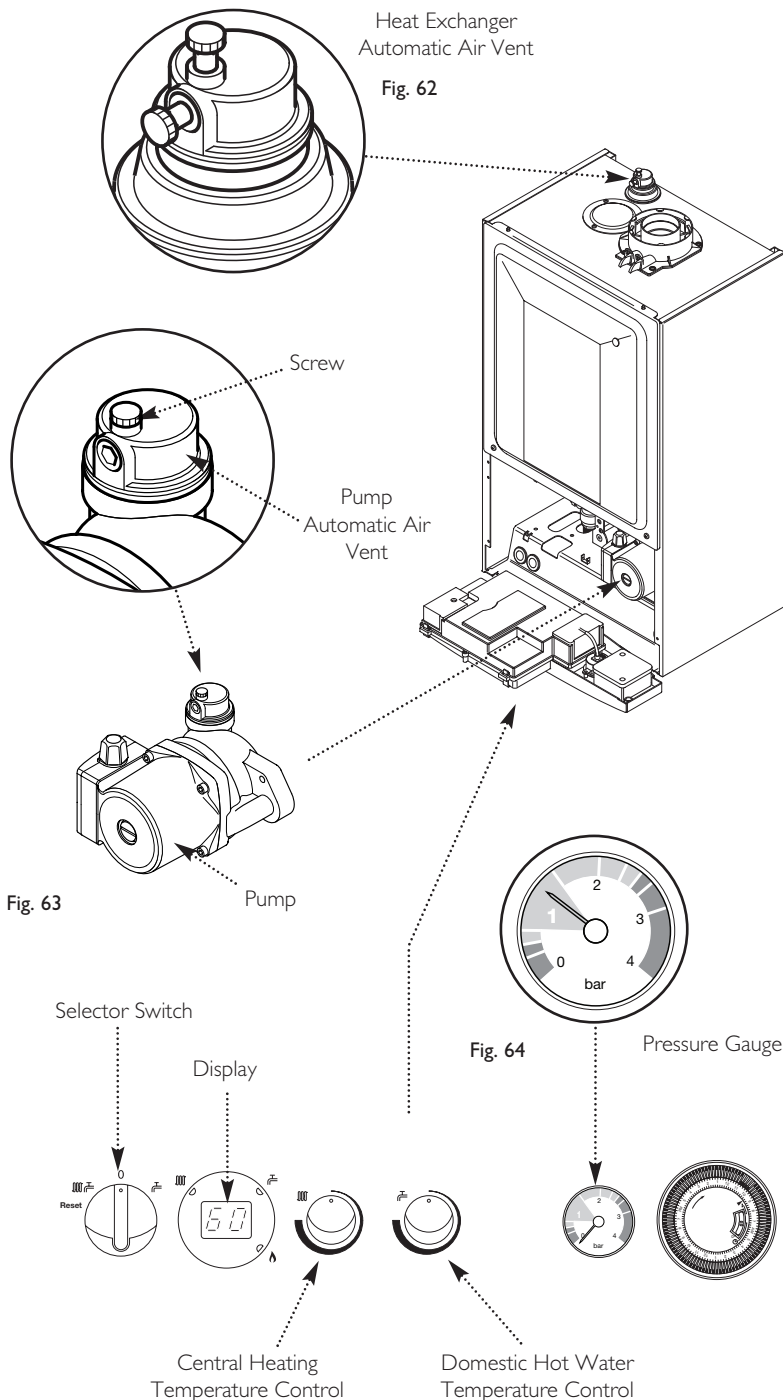

Fig. 65
11. Turning either of the temperature control knobs will set the relevant temperature. When the knob is turned the display will alter and show the selected temperature. After a few seconds the display reverts to show the current boiler temperature (Fig. 65).